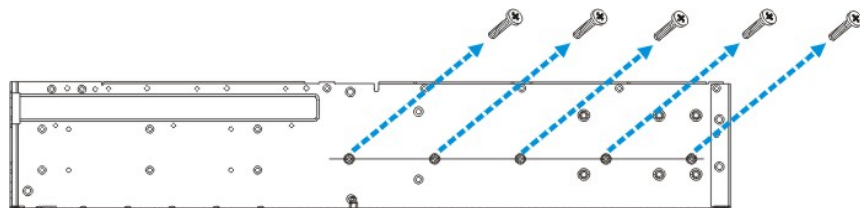

Figure 2-2: Enclosure Side Mounting Holes (2)
- *Figure 2-2* shows holes that are designed for slide rail options. There are five (5) mounting holes for #6-32 screws on the sides of the enclosure for use with slide rails purchased separately from Infortrend or other vendors.